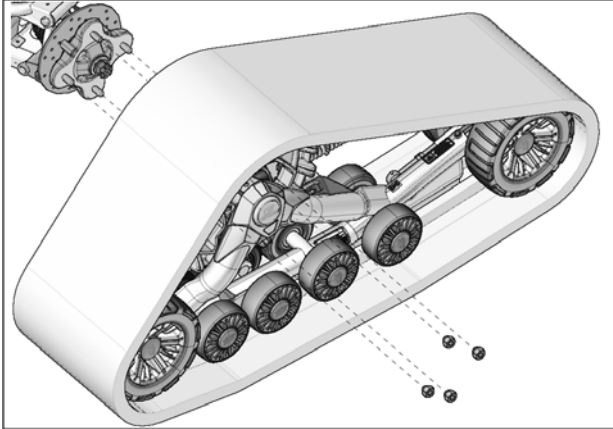

Fig. 11
10. Secure undercarriage to rear hub using the vehicle's wheel nuts. See Fig. 11
6. Using the vehicle's wheel nuts, secure undercarriages to front wheel hubs. The procedure and precautions are the same as for rear units. Refer to Fig. 11